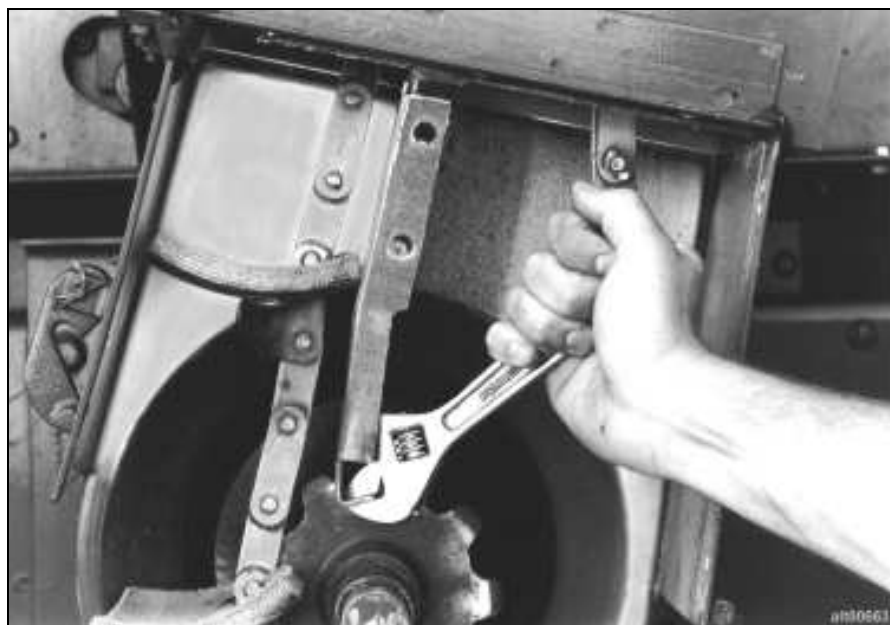

Figure 13. Bending center divider to increase adjuster travel
2. Remove boot side cover from bottom of elevator as shown in Figure 13.
3. As shown in Figure 13, bend bottom lip of center divider inside elevator up 20 to 30 degrees. This will assure lower adjuster can be adjusted up enough to remove a half link when chain stretches beyond downward adjustment of lower adjuster.